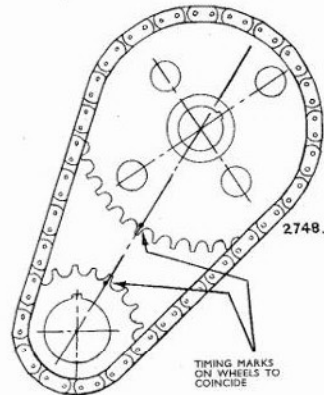

Fig. B.28. Assembling the timing wheels to the timing chain
3. Loop the chain over the crankshaft timing wheel and then enter the camshaft timing wheel into the chain so that the timing dots on the two wheels are on a line struck through the centres of the crankshaft and camshaft spigots (see Fig. B.28), ensuring any slack in
crankshaft timing wheel until both wheels are fully home. Check again that the timing dots fall on a common line struck through the centre of the crankshaft and camshaft spigots (see Fig. B.28), ensuring any slack in the timing chain is on the left hand (non-drive) side of the timing wheels when viewed from the front of the engine, i.e., in the position occupied by the chain tensioner.